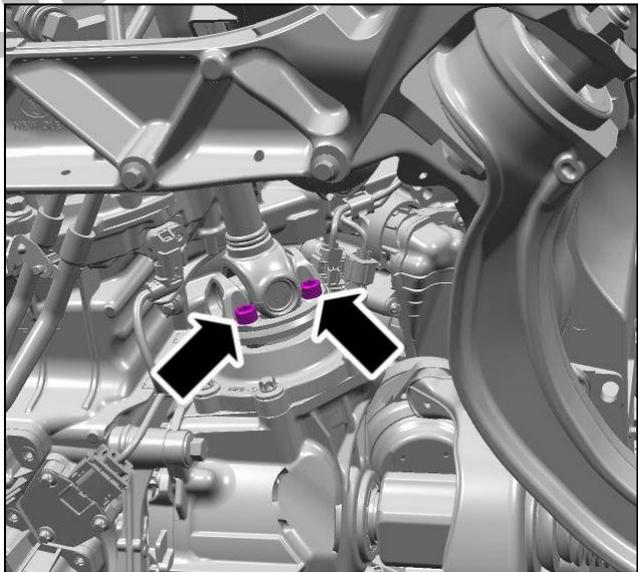

Figure 5
7. Torque the two bolts that attach the prop shaft to 45 Nm plus 90 degrees (refer to Figure 5).